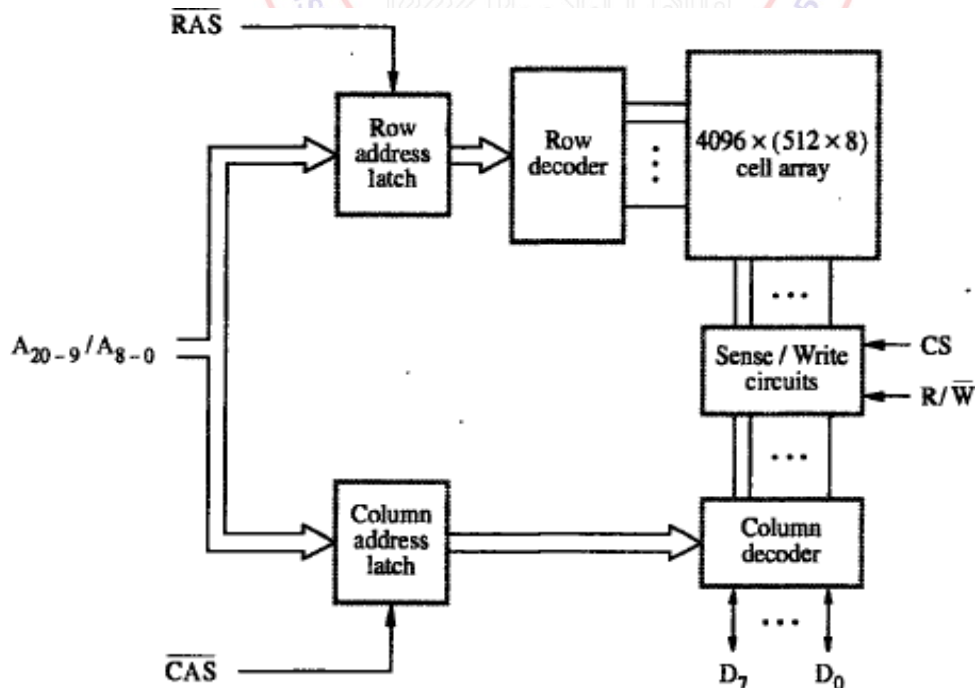

Figure 5.7 Internal organization of a 2M x 8 dynamic memory chip.
- The 4 bit cells in each row are divided into 512 groups of 8 (Figure 5.7).